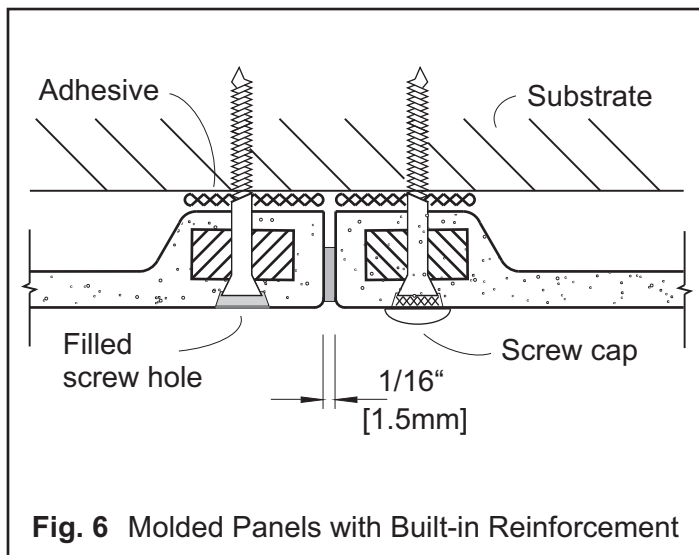

Fig. 6 Molded Panels with Built-in Reinforcement
1) Plan in advance for the finishing method to be used for face fasteners ,if any (e.g. MetalCast® screw caps, MetalCast® patching compound) - see Fig. 6. Also, secure the caulk for joints. Formglas does not supply caulk but recommends a brand name type and color - see page 4 for details.